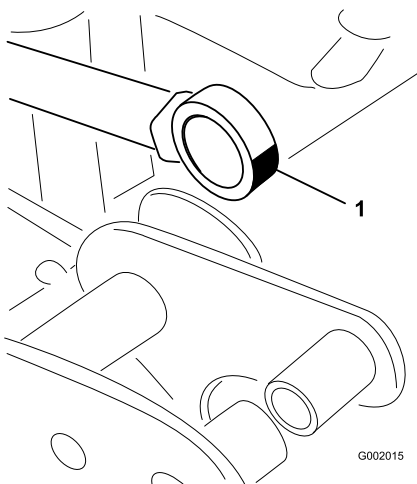

Figure 44
5. Manipulate the actuator rod bearing end and apply grease into the bearing (Figure 44). Wipe off excess grease.